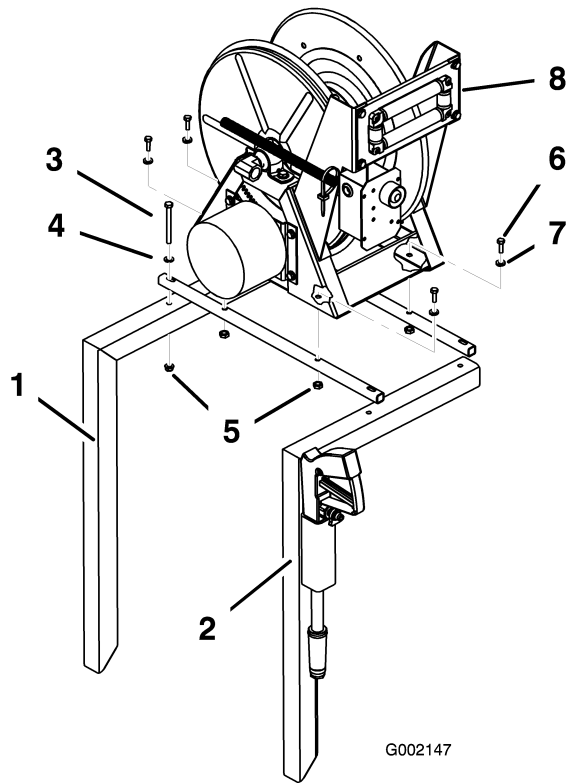

Figure 5
5. Install the 2 hose reel mounting tubes to the top of the hose reel frames (Figure 5) using 4 bolts (5/16 x 3-1/4 inch), 4 washers (11/16 inch outside dia), and 4 flange nuts (5/16 inch). Do not fully tighten the fasteners to allow for later adjustment.
- Install the hose reel assembly onto the hose reel mounting tubes (Figure 5) using 4 flange-head bolts (5/16 x 1-1/2 inches), 4 washers (7/8 inch outside dia), and 4 flange nuts (5/16 inch). Do not fully tighten the fasteners to allow for later adjustment.